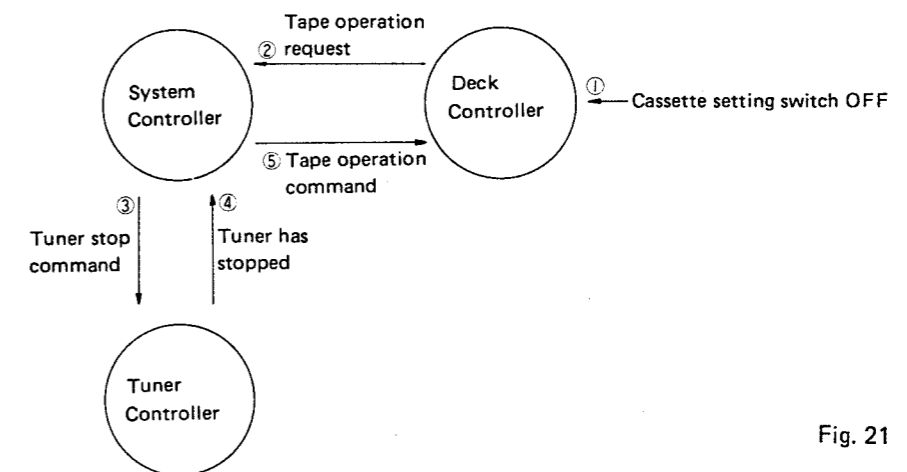

Fig. 21
b. When a cassette tape is loaded (Fig. 21)